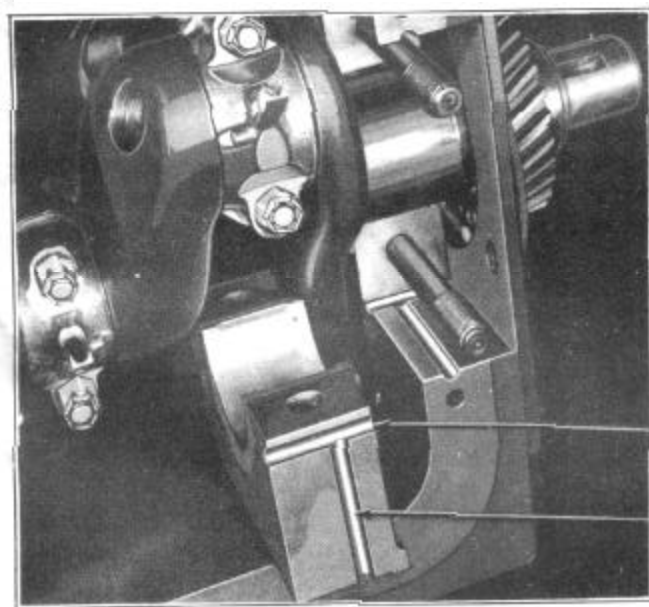

FIGURE 18
4. Thoroughly clean all traces of cotton packing from the grooves in the case and cap, Figure 18, to avoid clogging of the oil passages.